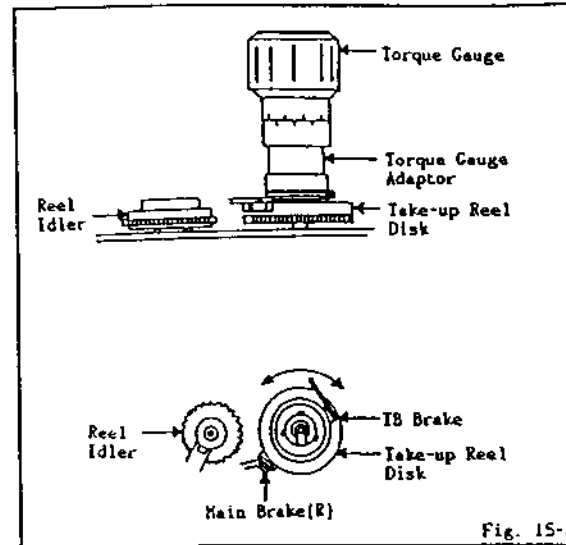

Fig. 15-a
2. Set the torque gauge (JG002G) to the take-up reel and turn it counter-clockwise. Confirm that the brake torque is more than 250g.cm. Refer to Fig. 15-a.